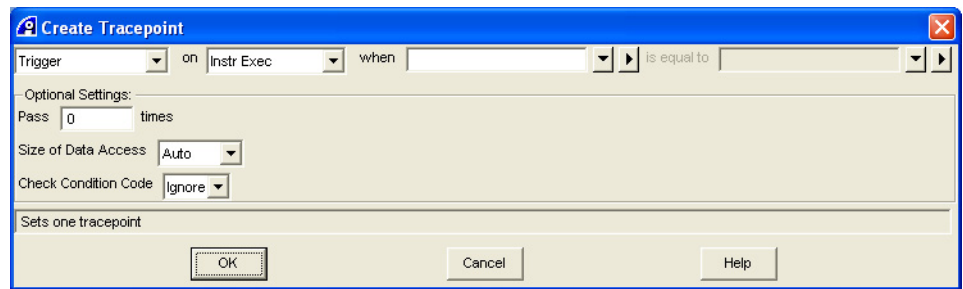

Figure 10-77 Create Tracepoint dialog box
- a. Select **Debug** → **Tracepoints** → **Create Tracepoint...** from the Code window main menu to open the Create Tracepoint dialog box. Figure 10-77 on page 10-76 shows an example: